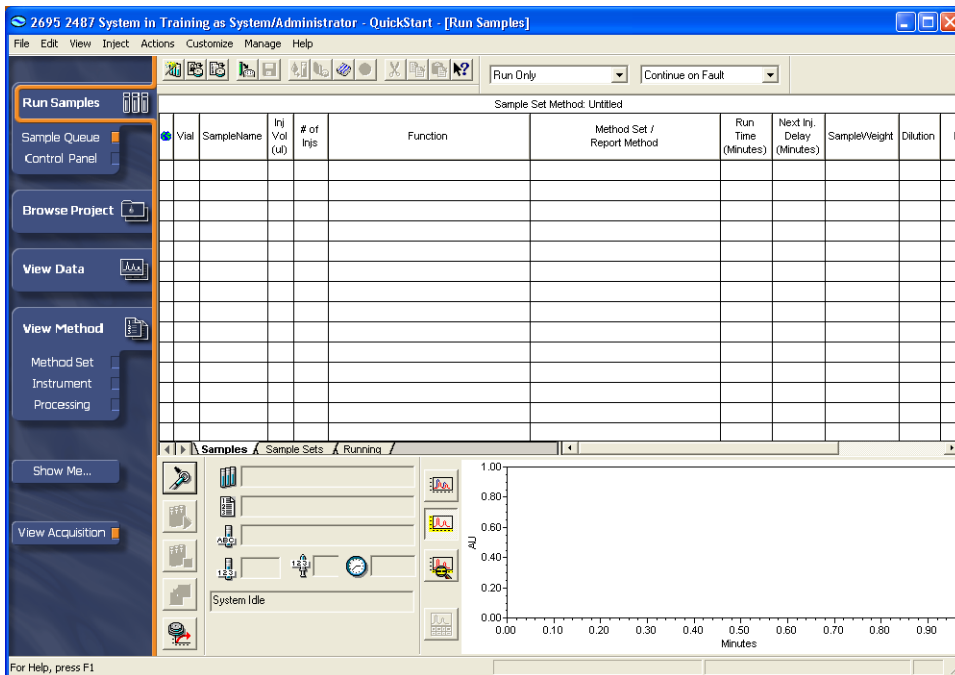

Figure 4-2 QuickStart Interface, Run Samples Window
2. From the Project list choose **Training**. (See Section 3.4, *Creating a Project*, to create the project if it does not appear.) From the Chromatographic Systems list choose **2695 2487 System**. (See Section 3.3, *Creating a Chromatographic System*, to create the system if it does not appear.) Click **OK**. The QuickStart interface appears (Figure 4-2).